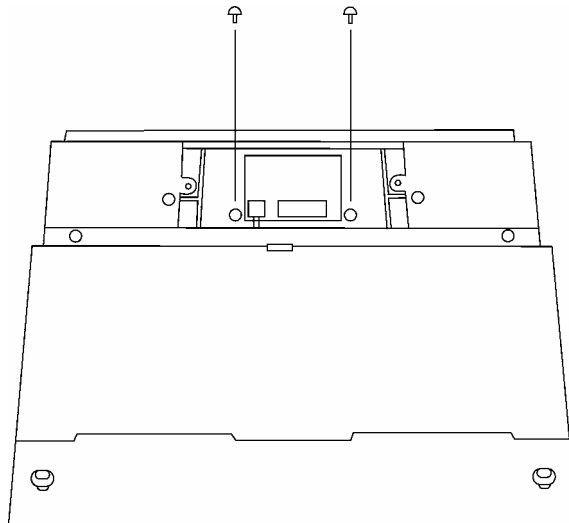

Figure 6.2-3
- (4) Remove the two screws that secure the laser unit. (See Figure 6.2-3.)